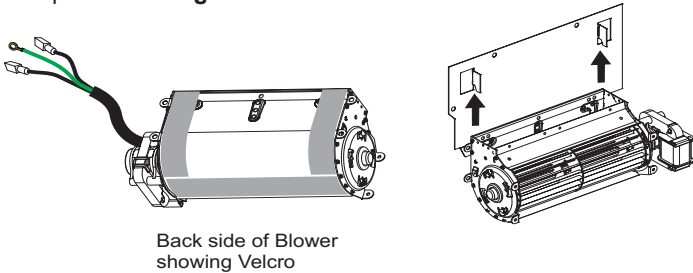

Figure 13
10. Install the blower onto the prebent brackets on the blower plate. Ensure the Velcro connects to secure the blower in place. **See Figure 13.**